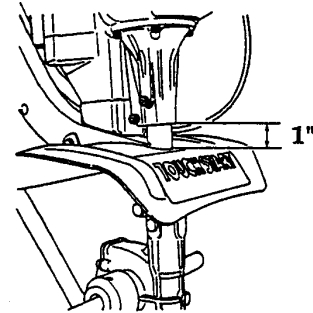

FIG. 3
**NOTE:** When properly installed, the engine casing should be about 1" from the top of the fender (see FIG. 3).